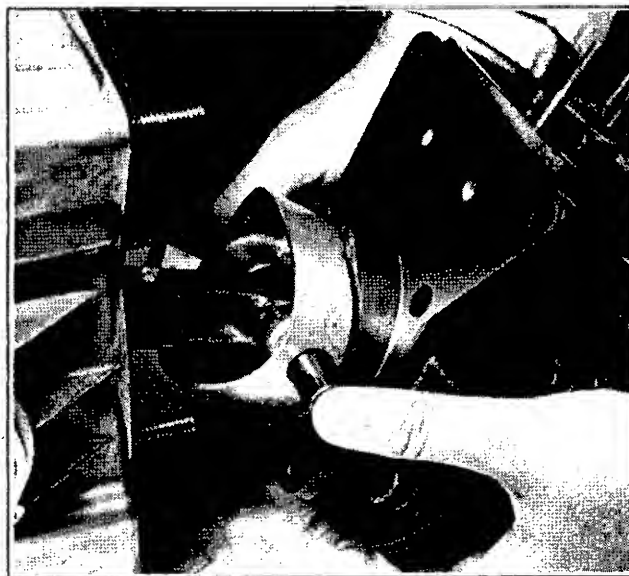

Figure 8-23. Assembling Piston to Connecting Rod
4. Assemble piston to connecting rod by sliding piston pin into pin bore and through connecting rod journal as in Figure 8-23. Secure piston pin with retainer.